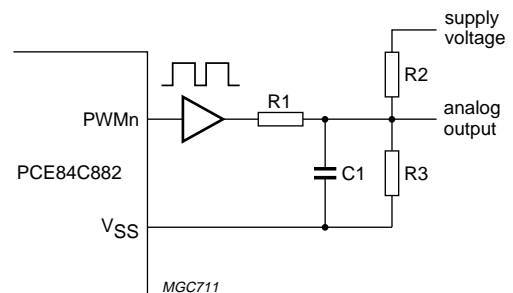

Fig.11 Typical PWM output circuit.
A typical PWM application is shown in Fig.11. The buffer is used to reduce jitter on the OSD. R1 and C1 form the integration network the time constant of which should be at least 5 times greater than the repetition period of the PWM output pattern. In order to smooth a changing PWM output a high value of C1 should be chosen. The value of C1 will normally be in the range 1 to 10 μ F. The potential divider chain formed by R2 and R3 is used only when the output voltage is to be offset. The output voltages for this application are calculated using Equations (1) and (2).